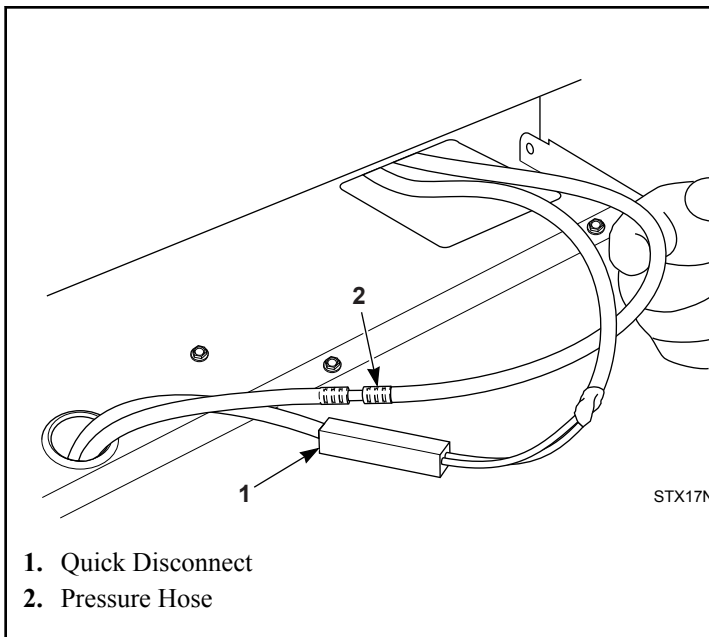

Figure 22
15. Disconnect pressure hose and quick disconnects on wire harness. Refer to *Figure 22*.